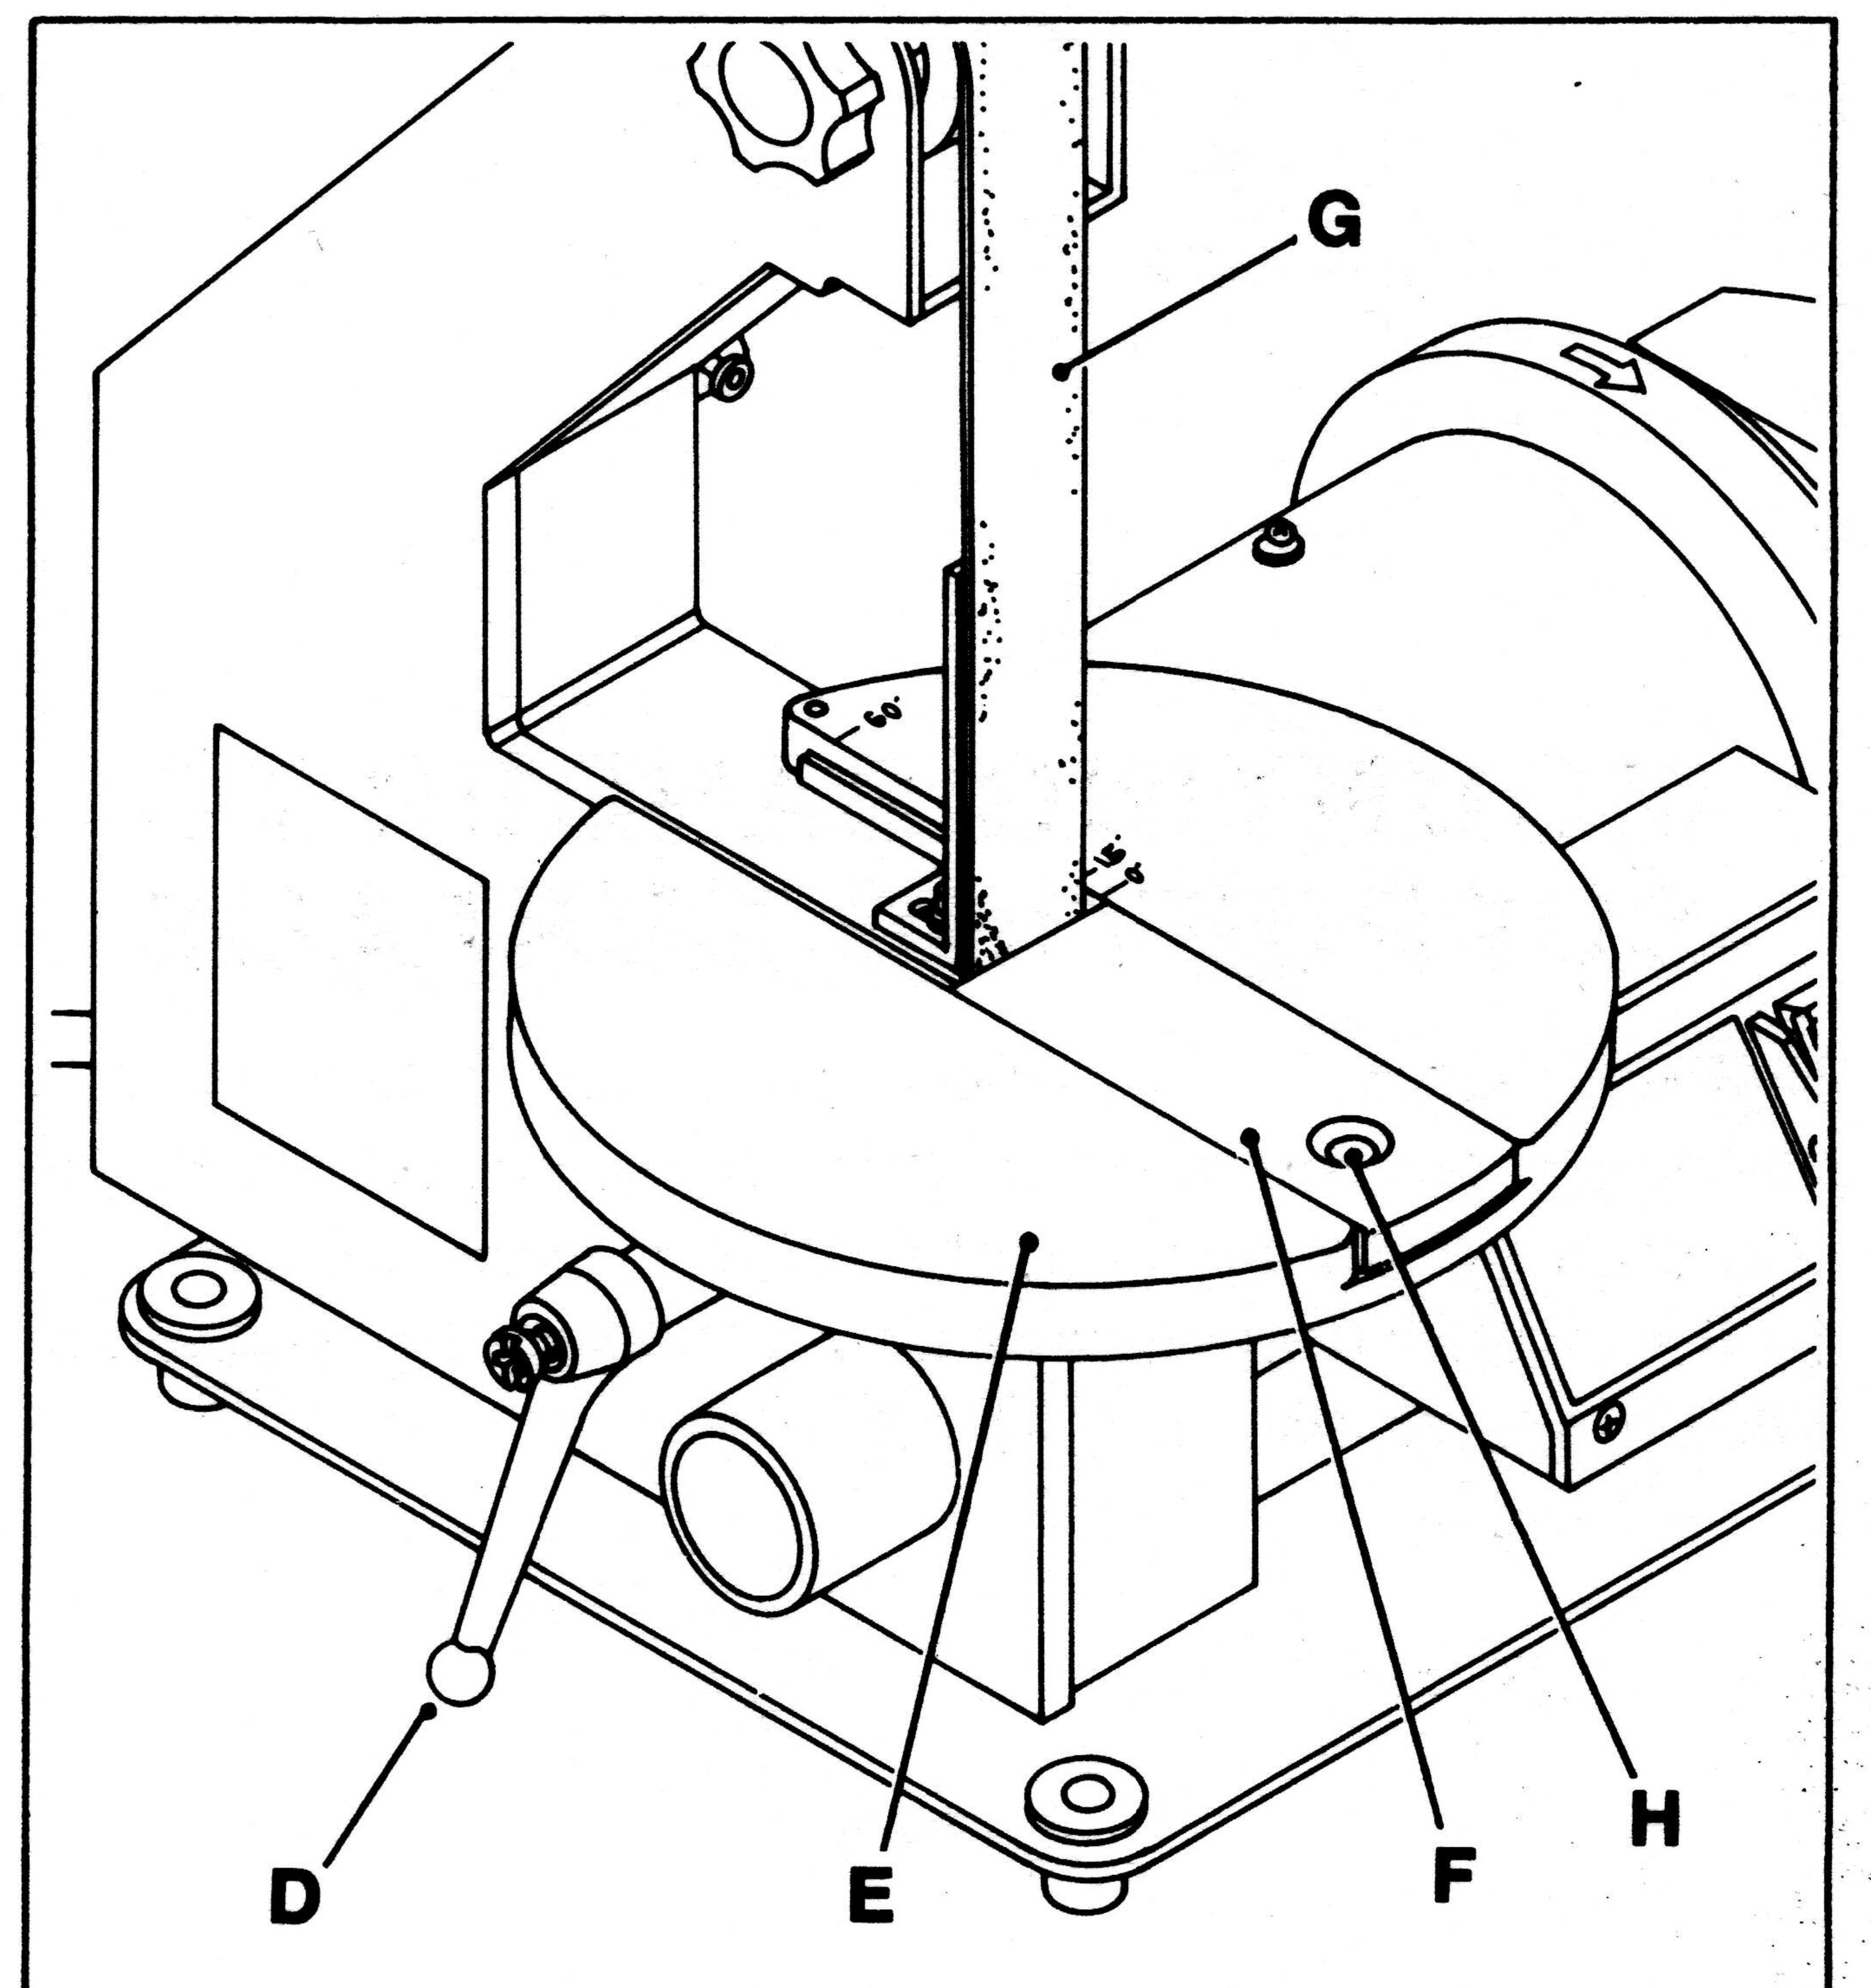

Fig. 5
5. The table (E) is shown completely assembled to the sander in Fig. 5. **NOTE:** The locking handle (D) is spring loaded and can be repositioned by pulling out on the handle and repositioning it on the serrated nut located underneath the handle.
⚠ WARNING To avoid trapping the work or fingers between the table and sanding belt, the edge of the sliding plate (F) should be positioned a maximum of 1/16 inch from sanding belt (G), as shown in Fig. 5.